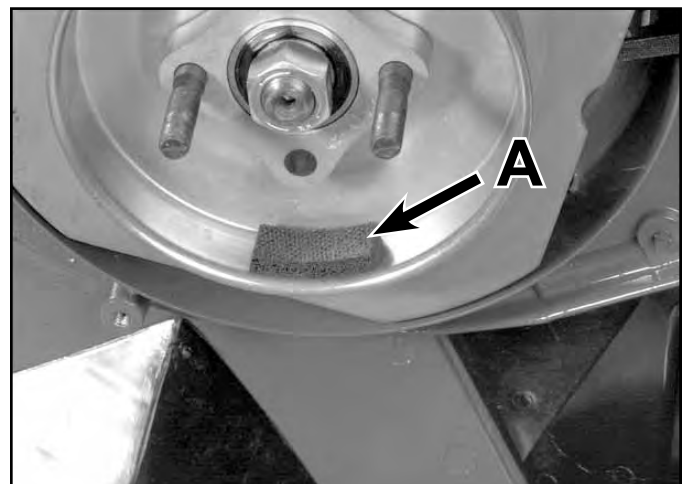

Fig 228
3. Note the two small foam pads inside the brake drum (Fig. 228).